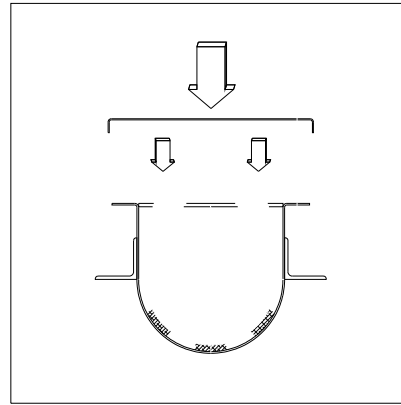

Figure 2.5.2n
12. Replace the protective cover to the trough (fig. 2.5.2n).